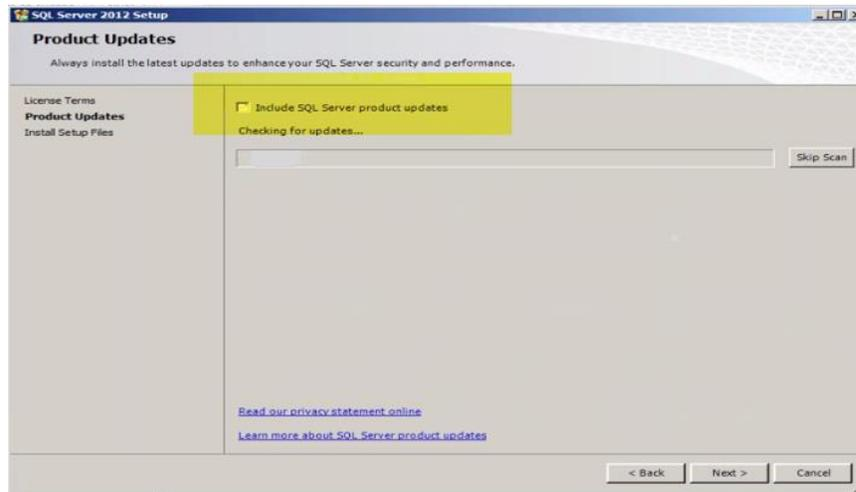

Figure 11: SQL Server 2012 Setup Product updates
- 5) If the Product Updates window (Figure 11) displays, make sure to clear the **Include SQLServer product updates** checkbox.